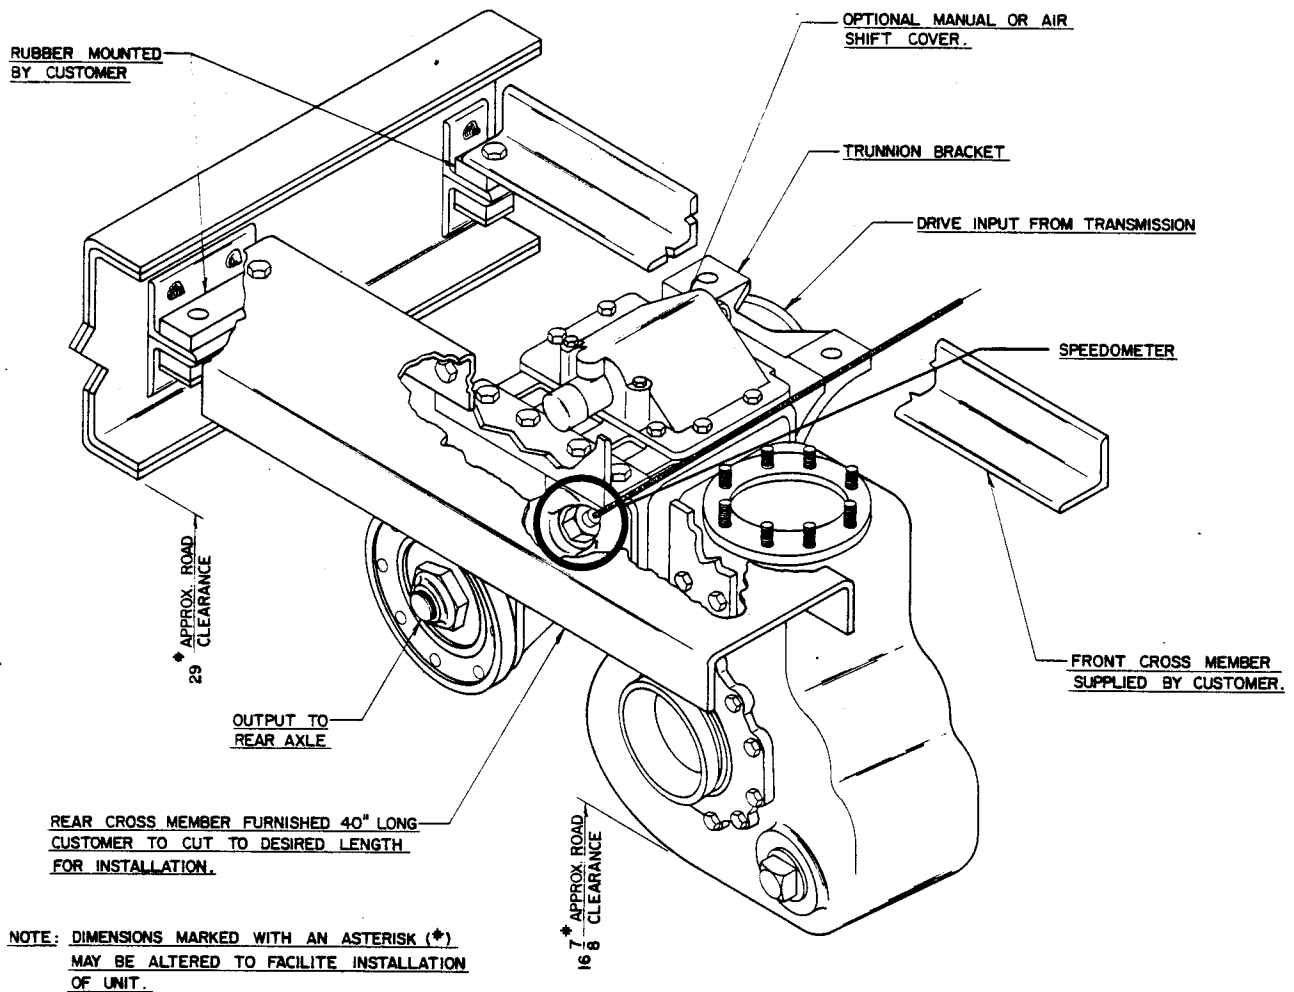

Figure 3. Typical Pump Mounting on Vehicle Chassis
Install the spacer and the ball bearing. Lubricate the lip of the oil seal, and install the oil seal in the input bearing cavity so that the lip of the seal is positioned as shown in figure 3. Replace the input bearing cap gaskets (22), and secure the bearing cap to the gearbox housing.
To reinstall the tail shaft assembly, lubricate the lip of the oil seal, and install the oil seal in the output bearing cavity so that the lip of the seal is positioned as shown in figure 3. Reinstall the output bearing cap shims, and secure the bearing cap to the tail shaft assembly. Be sure that the two sections of the bearing cap vent are aligned and the bearing cap shims (59), making certain that it does not block the bearing cap vent passage.
A rear cross member 40 inches long is shipped with the pump, and can be cut to size to fit the side rails of the vehicle chassis. Using hardware provided with the pump, rigidly mount the flanges on the pump and gearbox to the rear cross member (see figure 3).